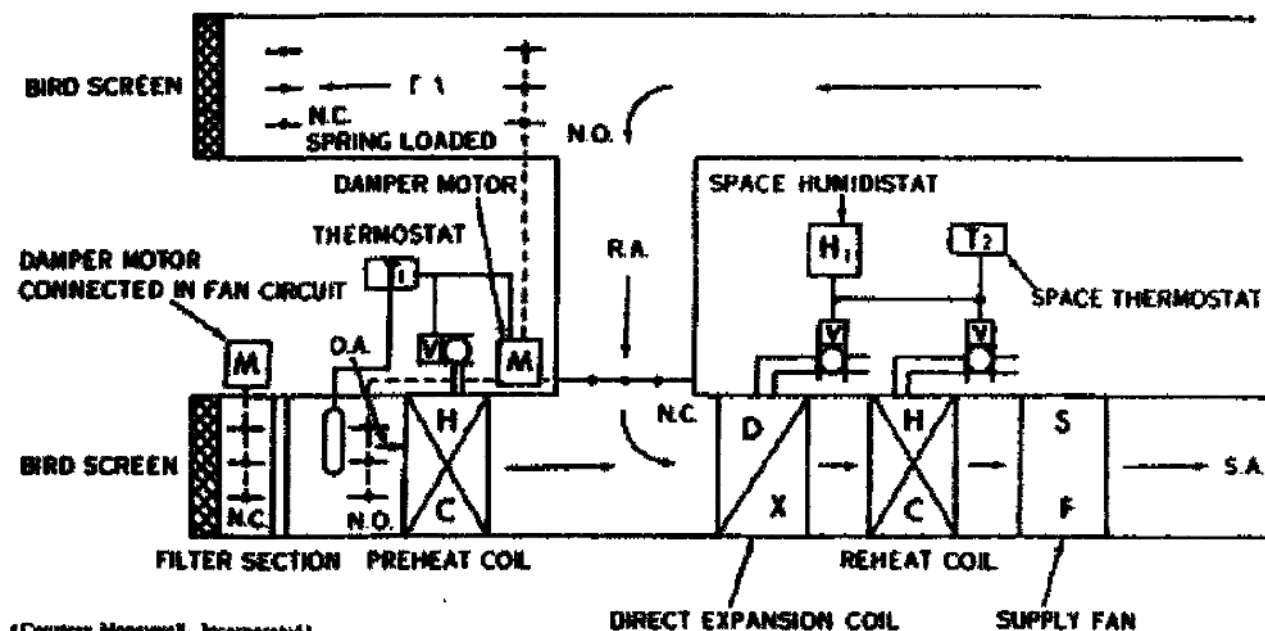

Figure 12. Typical D/X equipment cooling system.
25. **Typical D/X Equipment Cooling System.** Figure 12 shows a system which may be used to condition air for electronic equipment operation. Thermostat  $T_1$  senses outdoor (incoming) air and modulates the preheat coil valve to the full open position when the temperature falls below the controller set point. A further drop in temperature will cause the thermostat  $T_1$  to modulate the outside and exhaust air dampers shut and the return air damper open.